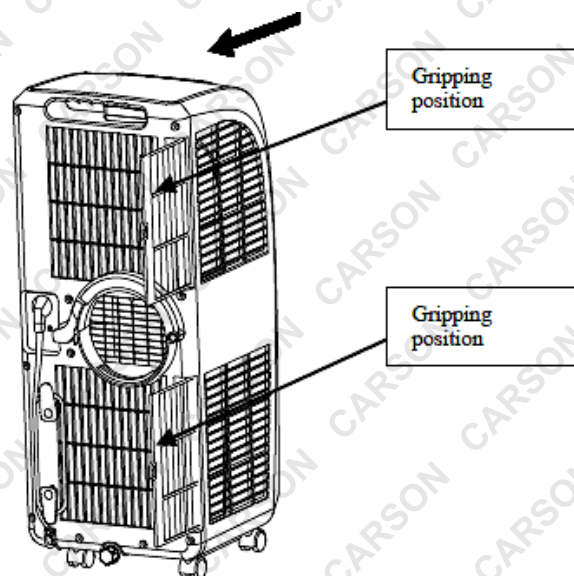

Figure 16
2. Hold onto the gripping position of the evaporator filter and condenser filter meshes and take out the filter mesh gently in the direction shown by the arrow (as shown in Figure 16).